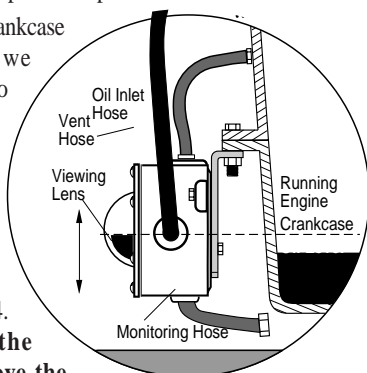

Figure 4
2. Attach the 1 inch (25 mm) diameter, flexible monitoring hose to the crankcase and the monitoring port on the LM300. See Figure 4. **CAUTION:** The hose must slope slightly downward from the LM300 and **MUST NOT** have any droop or low spots.
3. Install the 1/2 inch (13 mm) I.D. x 3 ft. (914 mm) hose to the vent connection on the LM300 to the vent connection on the crankcase. See Figure 4. **The vent connection on the crankcase must be well above the regulated oil level.** All hoses must be clear of obstructions.
4. Fill the crankcase to the proper oil levels. With the engine running and warm, loosen the mounting bracket adjustment bolts and adjust the LM300 so that the oil level in the sight gauge is aligned with the white “index line” on the dial (Figure 4). Tighten the adjustment bolts securely.